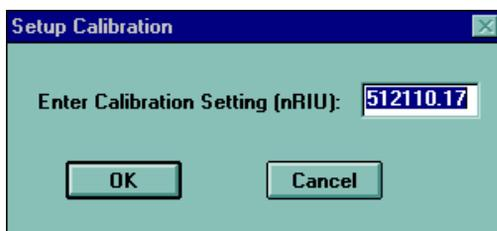

Figure 19 Calibrate Refractive Index
- 1 If the detector response differs from the theoretical response of 512,000 nRIU +/- 5,000 nRIU enter the theoretical value (512,000) in the dialog box. If the detector response is within the theoretical response click *OK* (see Figure 19).